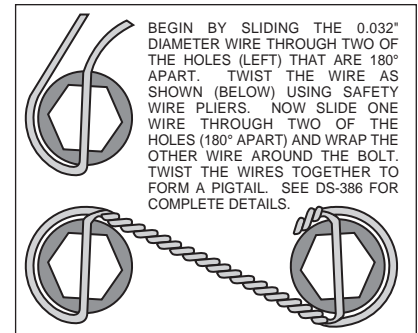

Figure 3. Safety Wire Diagram
- Install wheel studs (6) into the hub (7). Torque to 77 ft-lb. **NOTE:** There are two five lug patterns in the hub (5 x 4.50 and 5 x 4.75). Make sure of the correct hole pattern for the correct wheel application before installing studs into hub.
- Pack the large inner bearing cone (8) with high temperature disc brake bearing grease (available from your local auto parts store) and install into the backside of the hub (7).
- Install the grease seal (9) by pressing into the backside of the hub (7).
- Attach rotor adapter plate (10) to rotor (11) using bolts (12). Apply red *Loctite*® 271 to the threads and torque bolts (12) to 25 ft-lb. For an added measure of security, the bolts may be safety wired using standard 0.032 inch diameter stainless steel safety wire as shown in Figure 3. Please refer to Wilwood's data sheet DS-386 (available at www.wilwood.com/Pdf/DataSheets/ds386.pdf) for complete safety wire installation instructions. **NOTE:** Dished side of adapter plate (10) should face hub (7). The counterbored side of the steel rotor (11) should face away from the adapter plate (10).